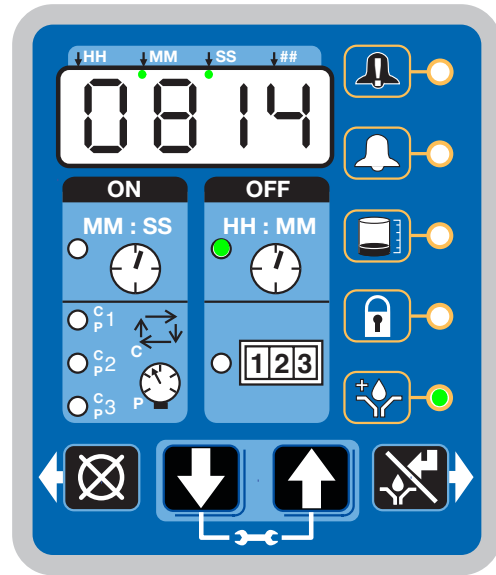

FIG. 54
- The LED next to the clock in the OFF field is illuminated (FIG. 54).
- The Prelube LED lights (FIG. 54).
- The display shows time remaining until lubrication cycle begins. The example shown in FIG. 54 shows 8 minutes and 14 seconds left until a lubrication cycle begins.